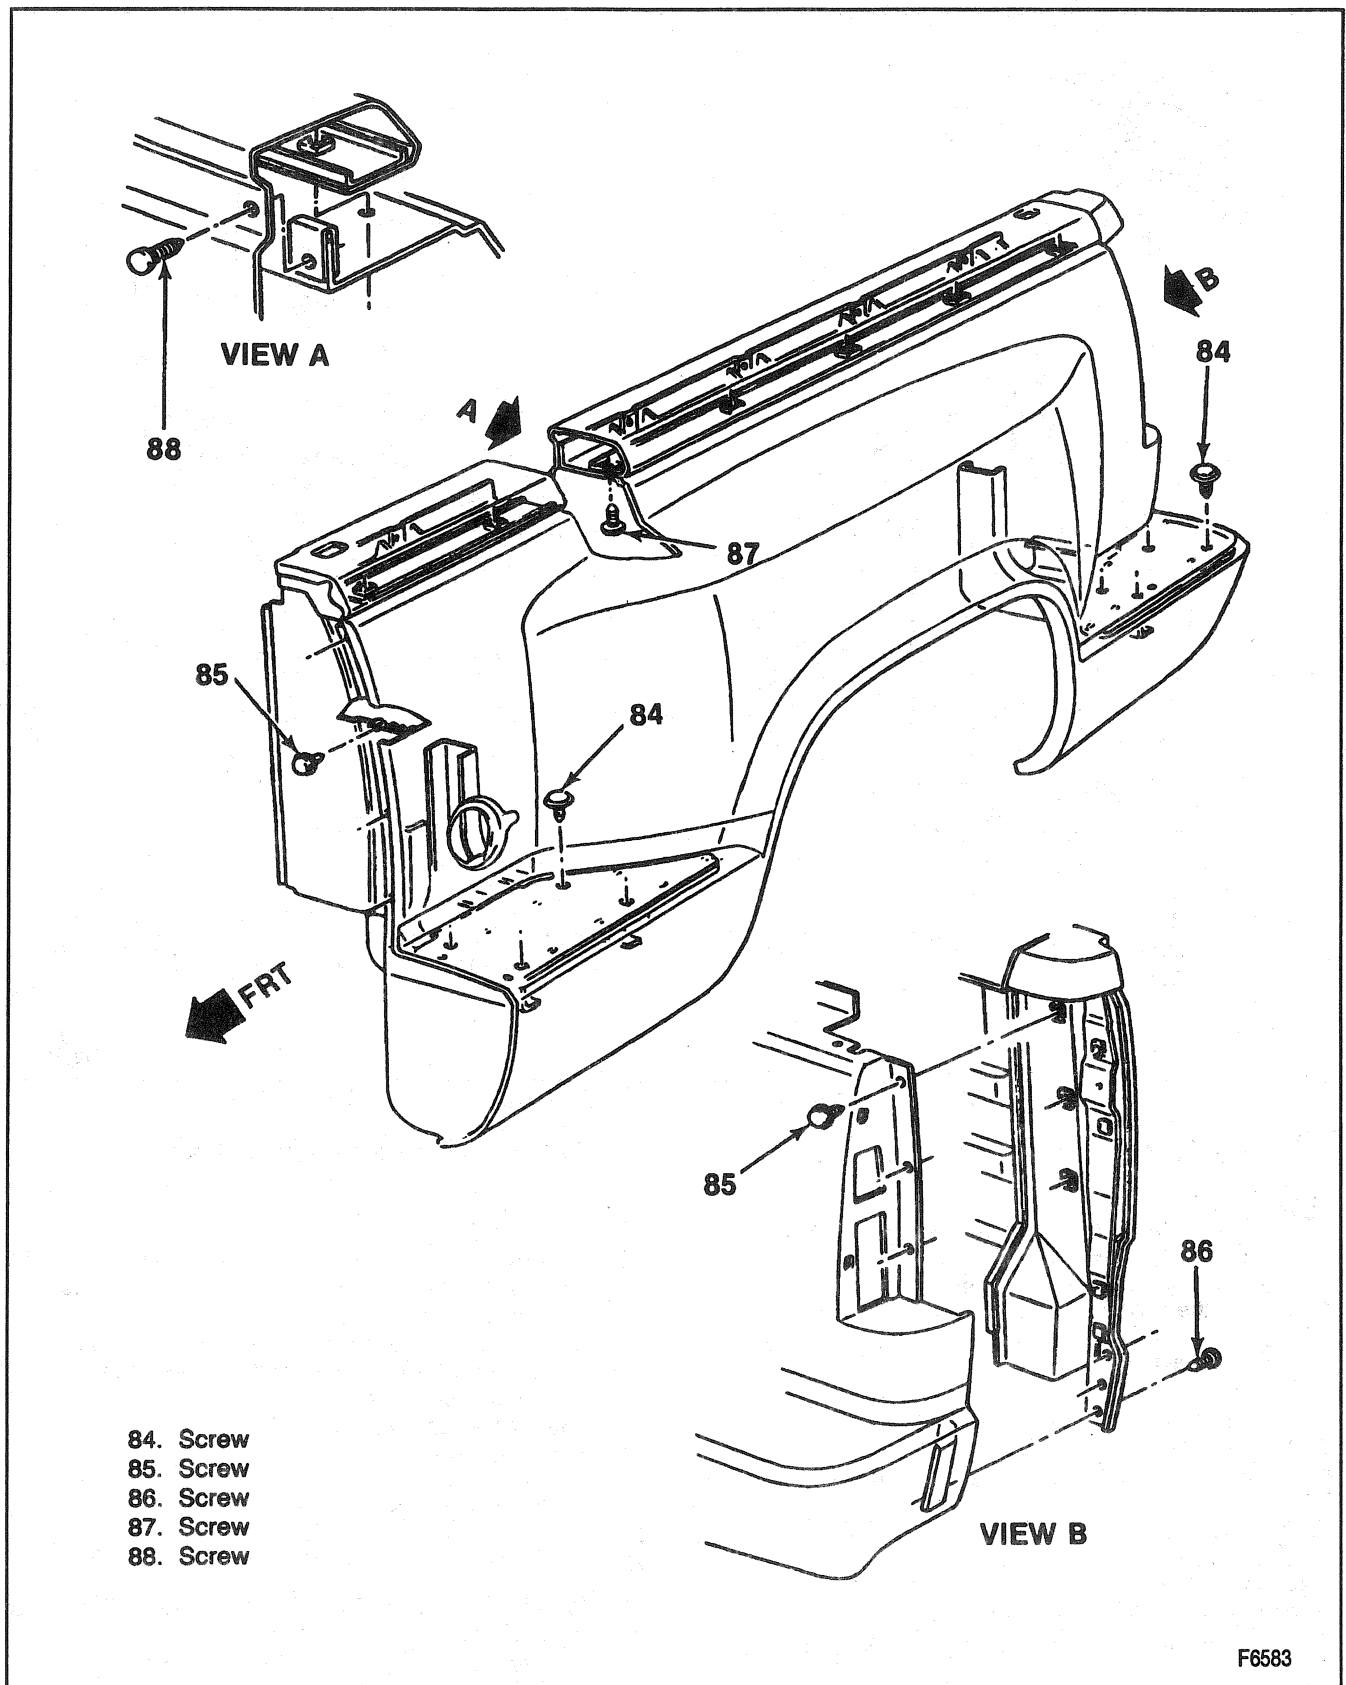

Figure 14—Stepside Fender
4. Fender to support bolts (Figure 14).